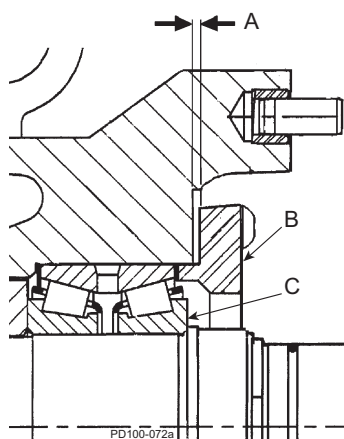

Figure 209 - Bearing Retainer Clearance
5. The bearing retainer (Figure 209, item B) must rest firmly against the bearing. Leave a 0.010 to 0.050 in (0.25 to 1.25 mm) clearance between the back of the bearing retainer and the front of the gear case (Figure 209, item A). If this clearance is not met, place shims between the bearing (Figure 209, item C) and retainer.